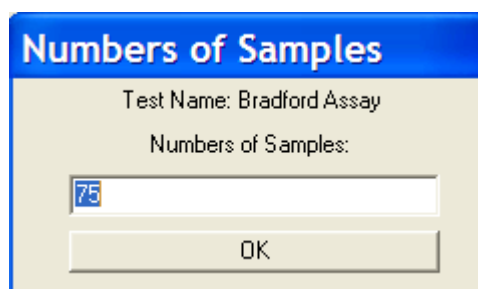

Figure 8-13: Number of Samples
3. Select a test definition and choose **OK**. Numbers of Samples appears (Figure 8-13).